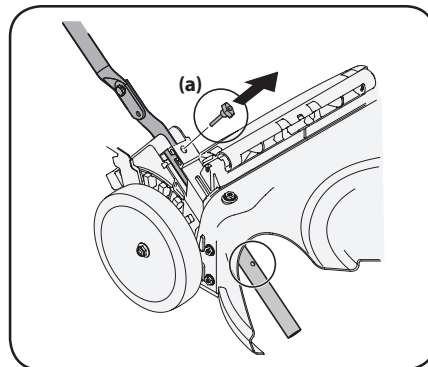
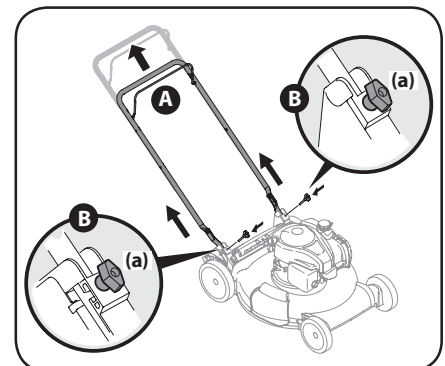

Figure 2-3
Figure 2-4
4. Remove the T-bolts (a) from the handle brackets as shown in Figure 2-3.
- a. Pull upward on the handle until holes in lower handle (shown in Figure 2-3 deck cutaway) line up with holes in handle bracket. See Figure 2-4.
- b. Insert the T-bolts (a) removed in Step 4 through the handle brackets and lower handle and tighten securely to secure the handle in place. See Figure 2-4.